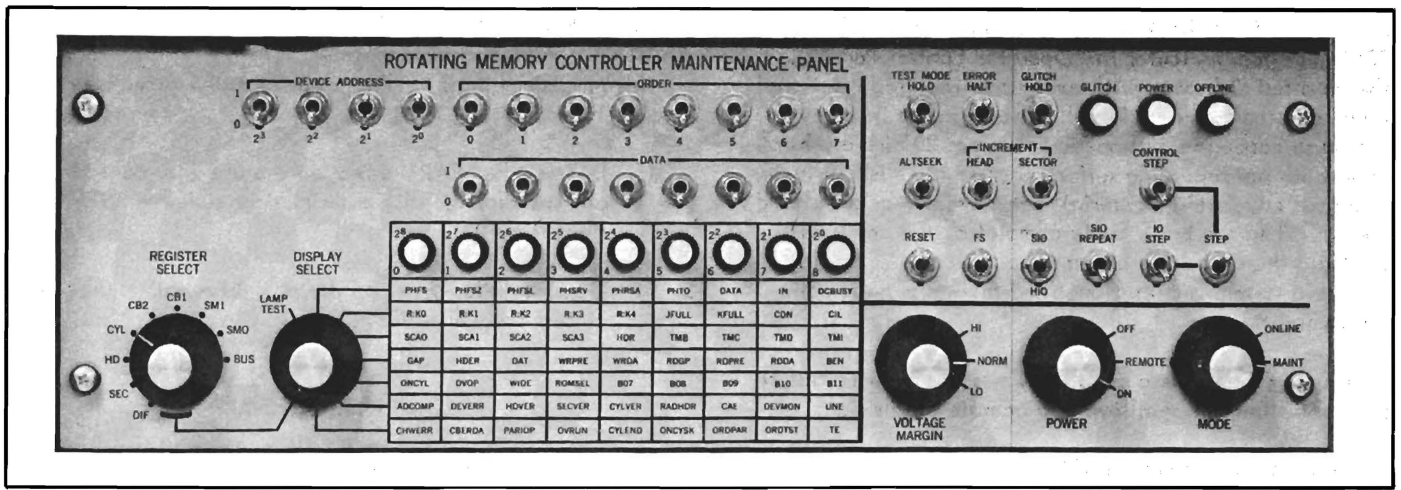

Figure 26. Controller Maintenance Panel
6. See Figure 26. Close the swing frame and set the controller VOLTAGE MARGIN switch to NORM.